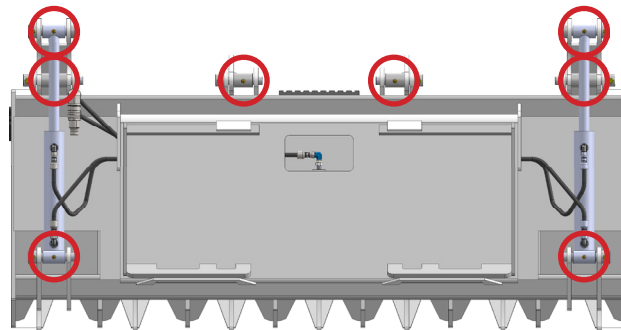

Figure 1
The Heavy Duty Grapple Rakes have eight (8) grease points (see Figure 1).